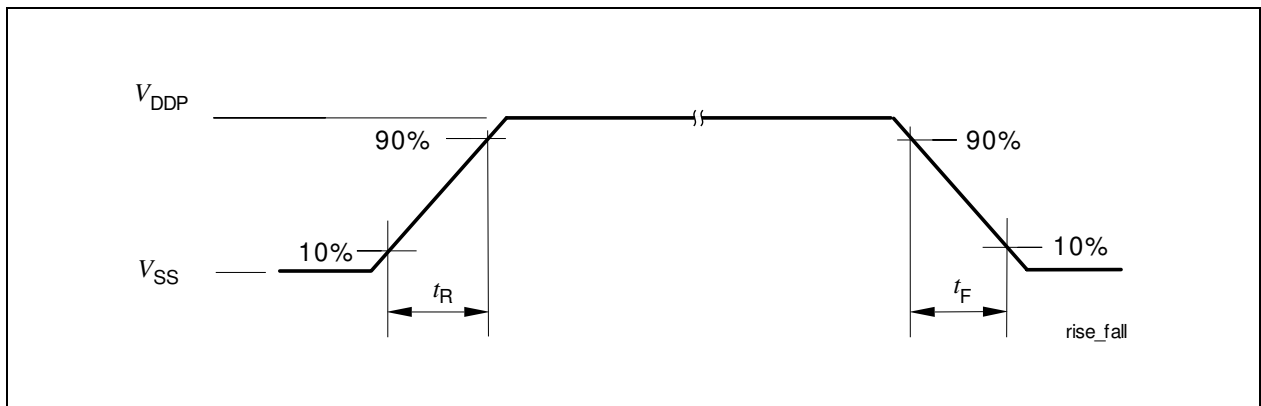
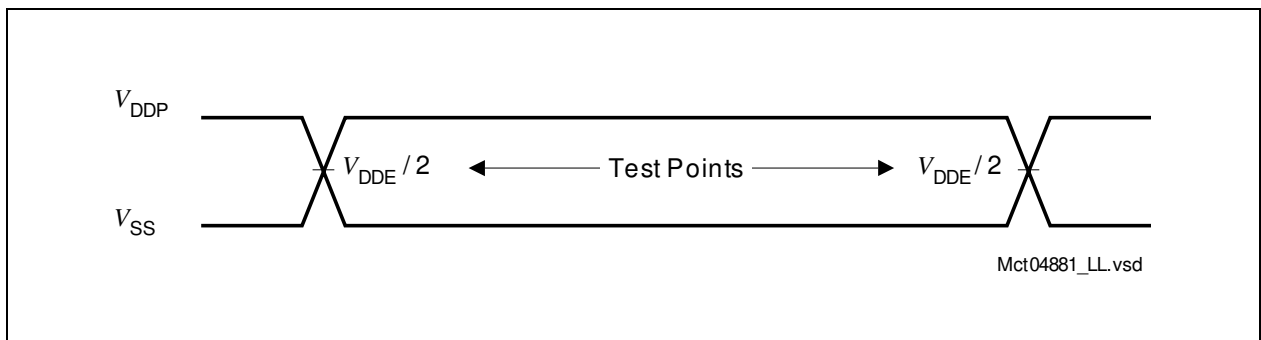
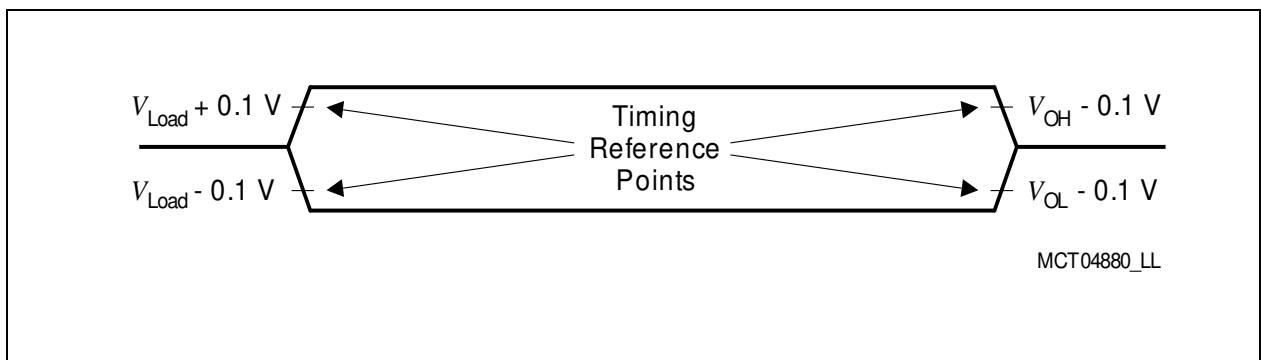

Figure 4-6 Rise/Fall Time Parameters
Figure 4-7 Testing Waveform, Output Delay
Figure 4-8 Testing Waveform, Output High Impedance
**Figure 4-8** provides the characteristics of the oscillator pins in the TC1161/TC1162.
The testing waveforms for rise/fall time, output delay and output high impedance are shown in Figure 4-6, Figure 4-7 and Figure 4-8.